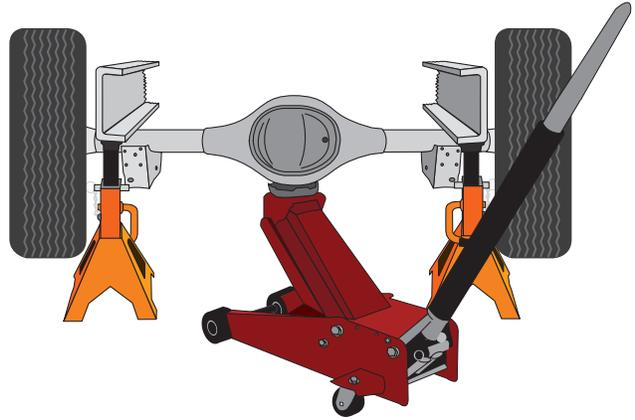

Fig. 4
1. Raise the vehicle (Fig. 4) and remove the wheels.